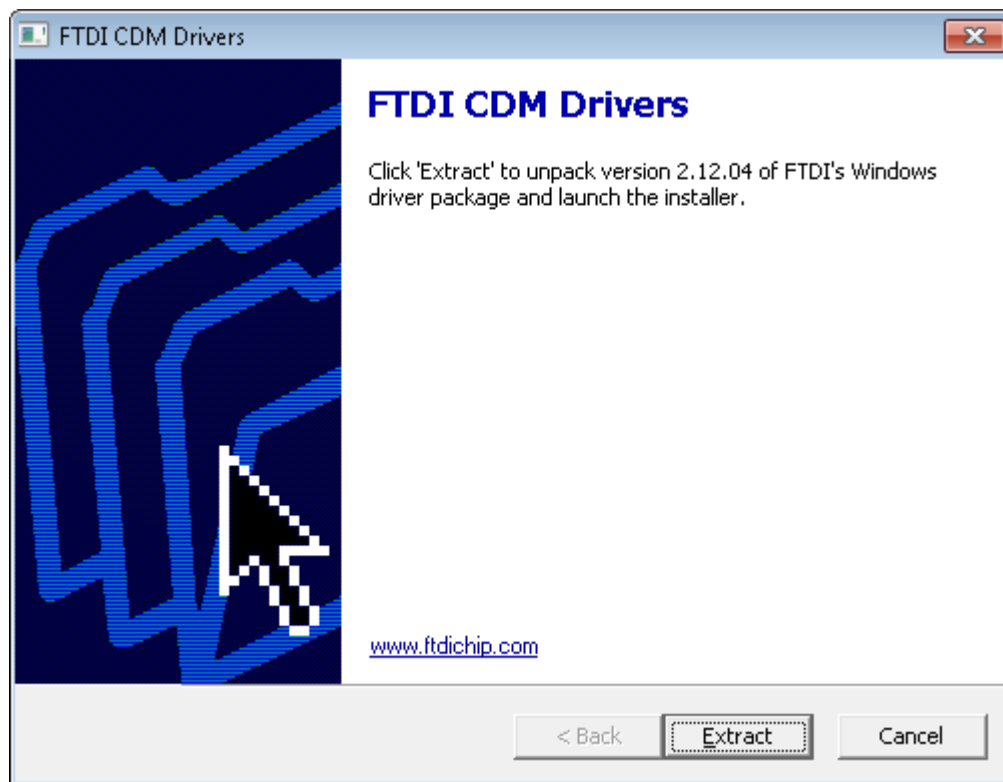

Figure 15. FTDI Installation Initialization
14. After DRV8811 Installation, FTDI Installation begins. A screen as shown in Figure 15 appears, click **Extract** to proceed.